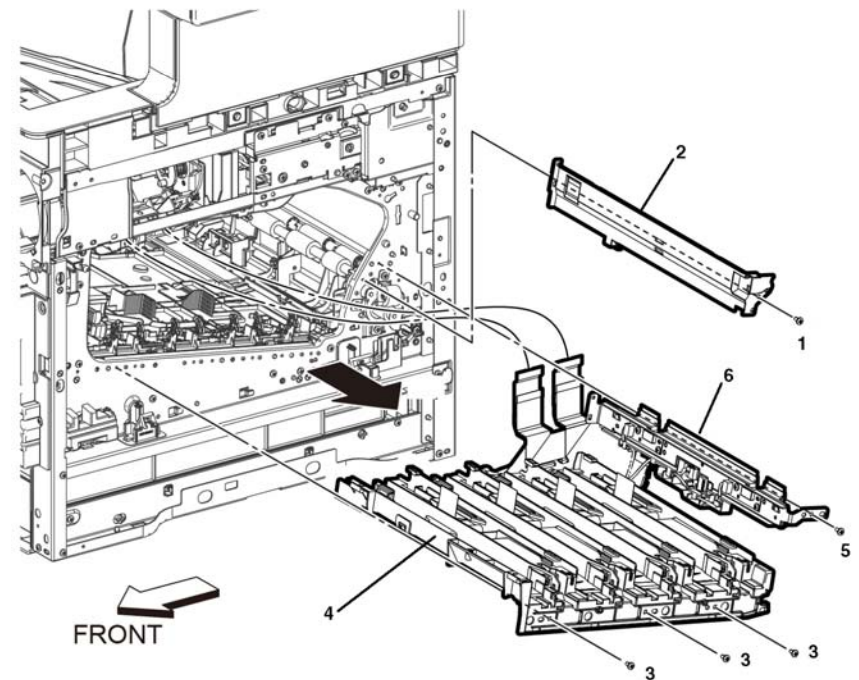

Figure 4 Remove the LPH FFC xerographic CRUM
8. Remove the CTD sensor assembly and the xerographic CRU guide, Figure 4:
- Remove the screw (1) attaching the CTD sensor cover (2), PL 6.1 Item 4, then remove the CTD sensor cover.
- Remove three screws (3) attaching the xerographic CRU guide (4).
- Remove the screw (5) attaching the CDT sensor assembly (6).
- Remove the xerographic CRU guide (4) and the CTD sensor assembly (6).